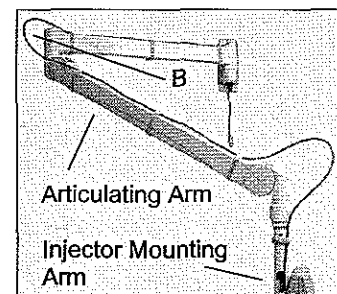

Figure 5-24b
- a. Disconnect the power/communications cable from the Injector pigtail cable (see Figure 5-24b).
- b. Remove the seven cable ties securing the cable to the Injector Mounting Arm and the Articulating Arm (see Figure 5-24b).
- a. Connect the power/communications cable to the Injector cable (see Figure 5-24b).
- b. Referring to Figure 5-24b, use the seven cable ties provided to secure the cable to the Injector Mounting Arm and the Articulating Arm. Leave sufficient slack in service loops A and B to facilitate full range of motion of all supporting members.